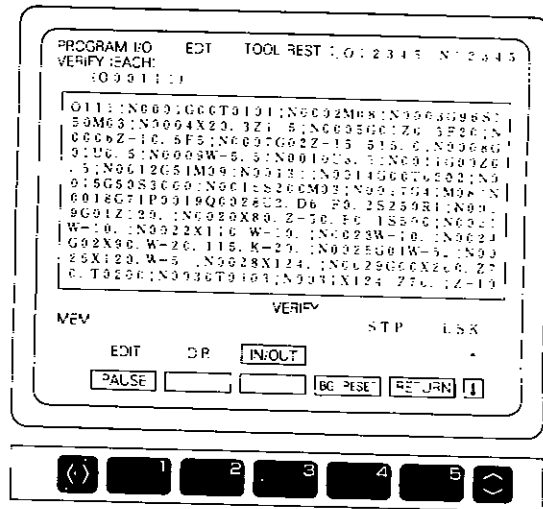

Fig. 3.4.43 O-number Verification Screen
6. The whole tape is searched for the input O-number. When the number is found, verification is started from that O-number, and the contents of the verified part program are displayed as shown in Fig. 3.4.43.